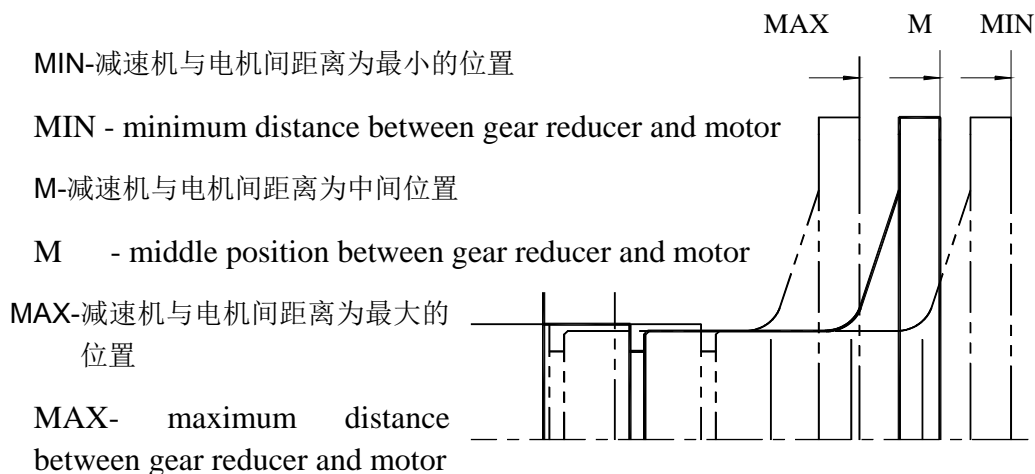

Fig.2
(1). 电机的转子一般有一定的轴向窜量, 在留轴向尺寸时应把电机的转子置于中间位置 M 如图 2。
(1) The motor's rotor normally has some axial float, in this case, the rotor should be placed in the middle, seeing Fig.2.
(1). 主电机的转子一般有一定的轴向窜量，在留轴向尺寸时应把电机的转子置于中间位置 M 如图 2。
(1) Generally axial float is left for motor rotor. When considering the axial float, keep the rotor in the middle position M as shown in Fig.2.